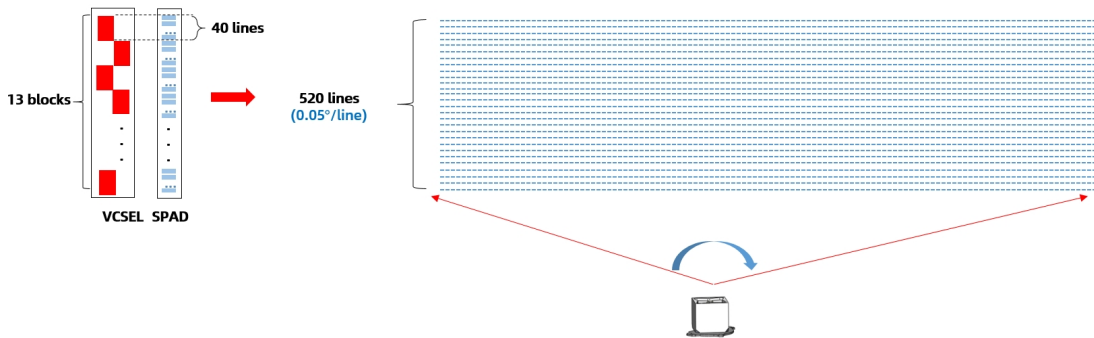

Figure 1 Operating Principle Diagram of EM4-F
The EM4-F is a high-performance automotive-grade LiDAR based on VCSEL + SPAD-SoC digital transceiver technology and a one-dimensional rotating mirror scanning system. It features 13 vertically arranged transmit blocks, with each block corresponding to 40-line reception via SPAD-SoC, totaling 520 lines, as shown in Figure 1. The EM4 has a maximum detection range of 300 meters, offering a resolution of 0.1° (H) \times 0.05° (V).